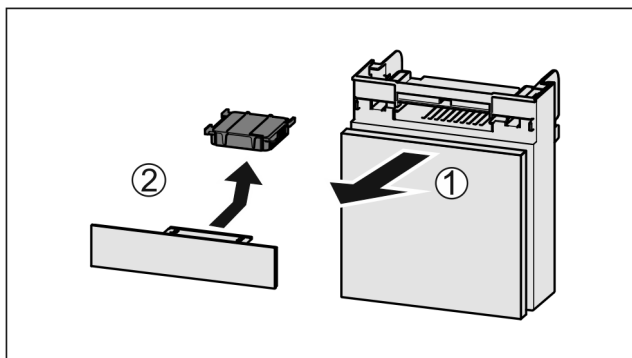

Fig. 137
- Pull out the compartment Fig. 137 (1).
- Remove the carbon filter Fig. 137 (2).